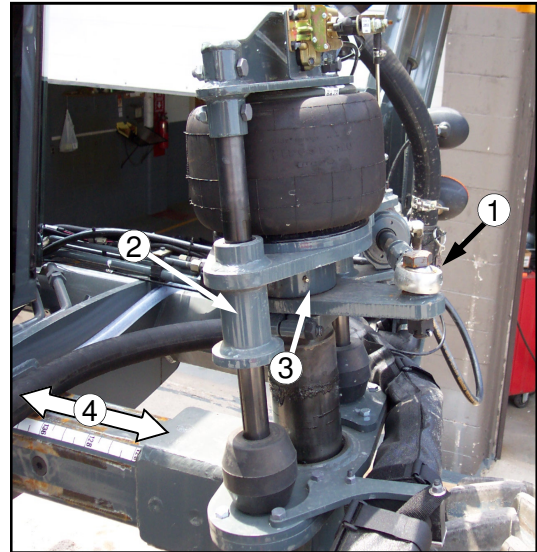

FIG. 122-1
LEGS AND STEERING– The front legs have a grease zerk in the tie rod ball (figure 122-1, item 1) that needs greased every 50 hours or weekly.
Both the front and rear legs have two grease zerks, one in each of the tower bearings (figure 122-1, item 2) that must be greased every 50 hours or as necessary. There is a zerk in the collar (figure 122-1, item 3) that also needs greased every 50 hours or as necessary.
The slide path of the tread adjust (figure 122-1, item 4) should be greased every 50 hours depending on the amount of usage.